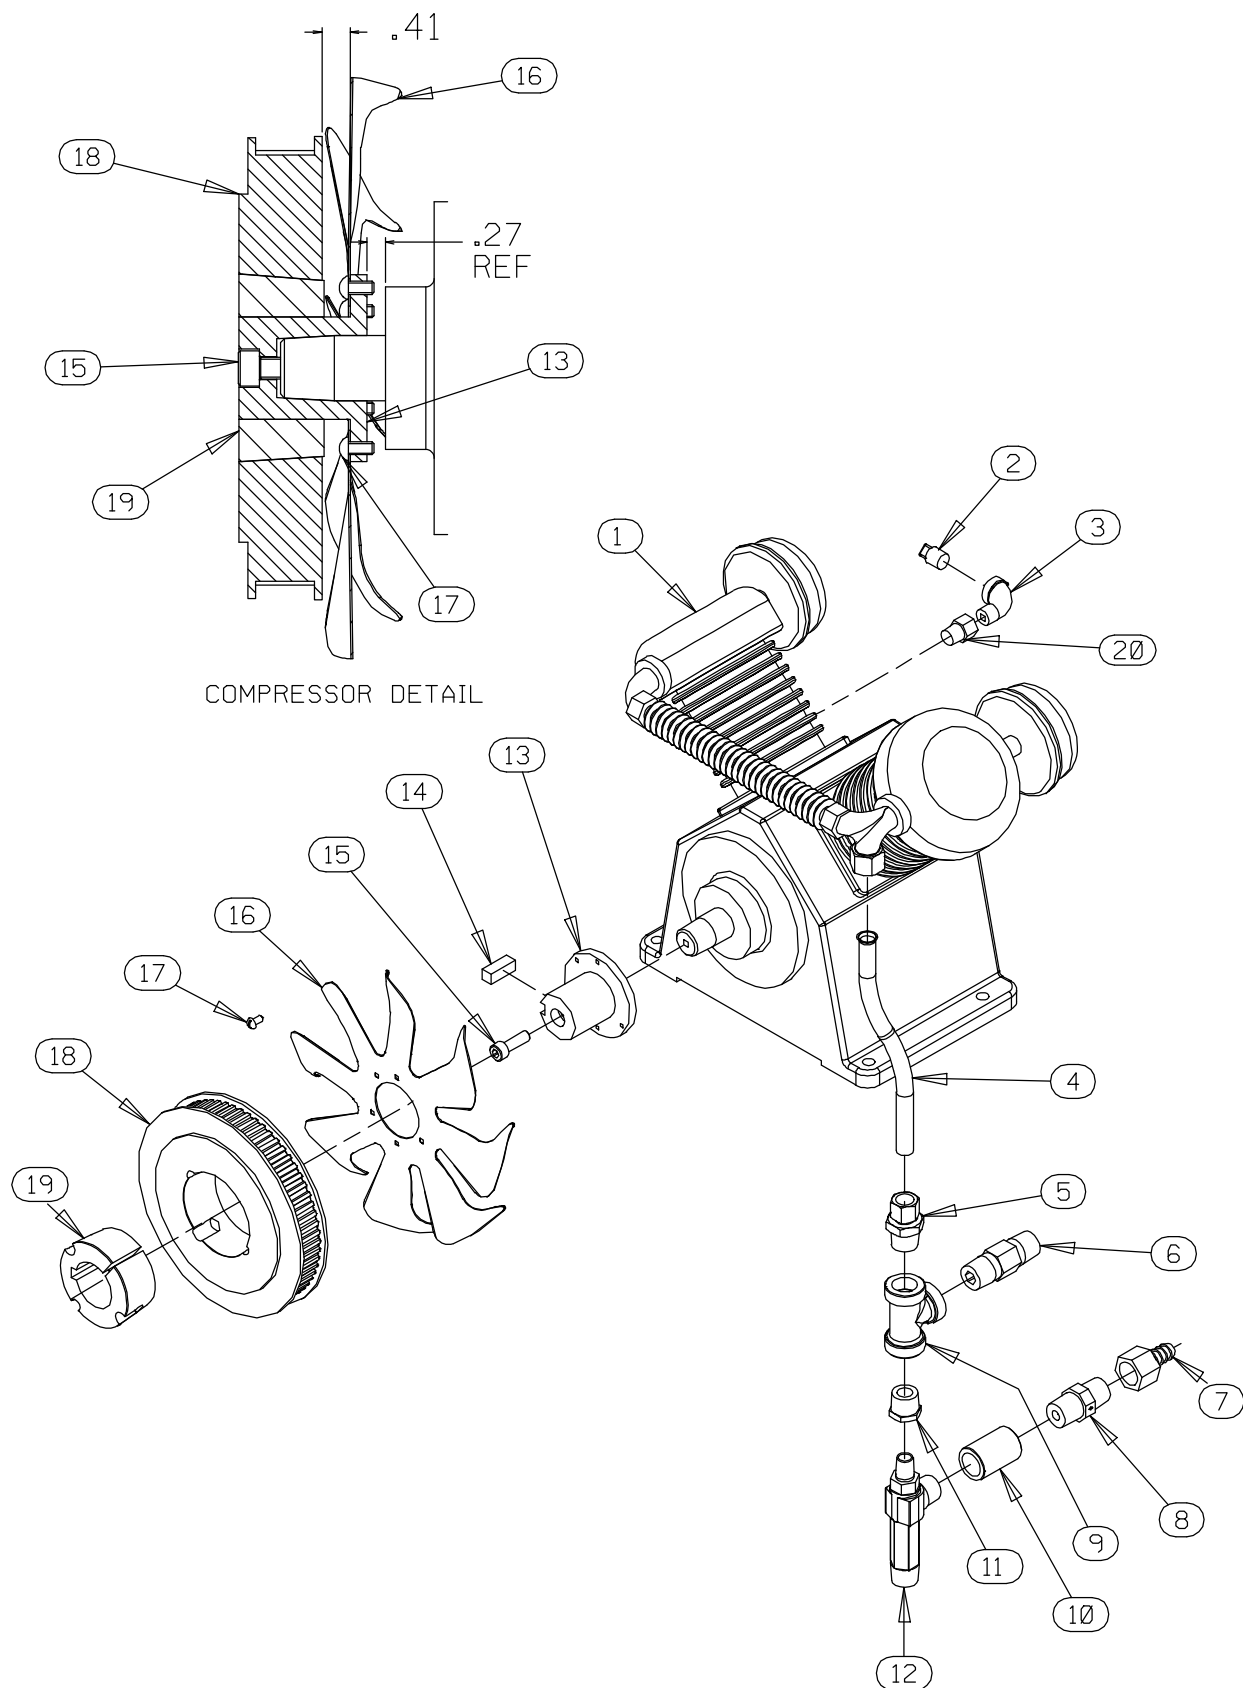

Figure 5. Air Compressor Assembly
Remove the hardware (17 and 51) and use a pry bar to raise the air compressor high enough to remove the spacers (52). Remove the belt (43) from the air compressor drive pulley (18, Figure 5).